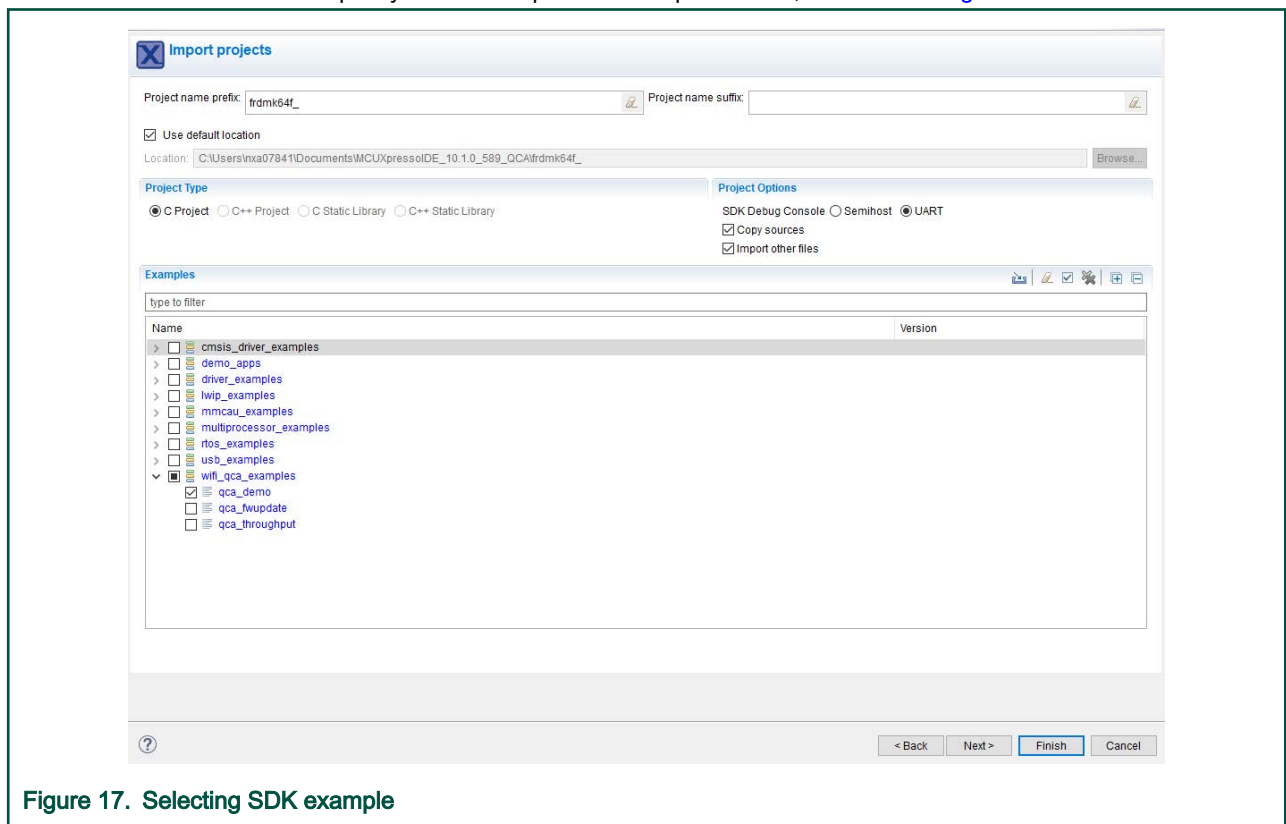

Figure 17. Selecting SDK example
- Click **Next** and select the examples you want to open in MCUXpresso IDE, as shown in Figure 17.